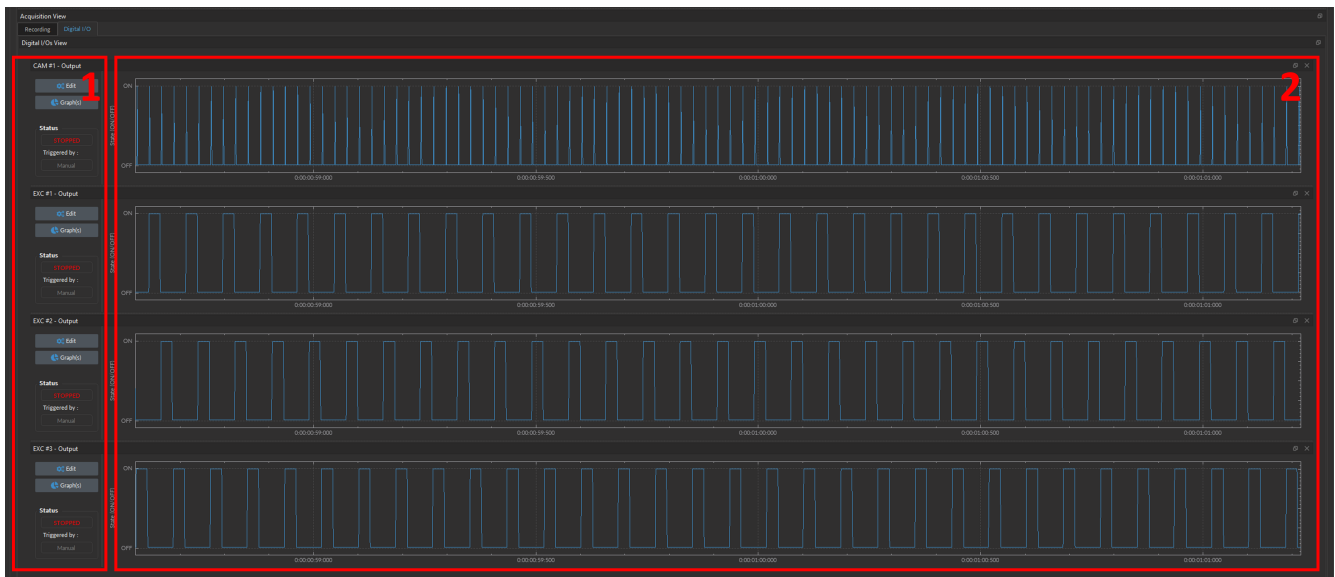

Figure 14.33: Digital I/O(s) View
The **Digital I/O(s) View** displays the active Digital channels, including **CAM** and **EXC** preset channels. Each Digital I/O channel includes: (1) a **Control Box** (Fig. 14.33, 1), and (2) a **Graph** (Fig. 14.33, 2).
The **Digital I/O** traces are displayed in the **Graph** box (Fig. 14.33, 2). Each channel graph includes the following components: